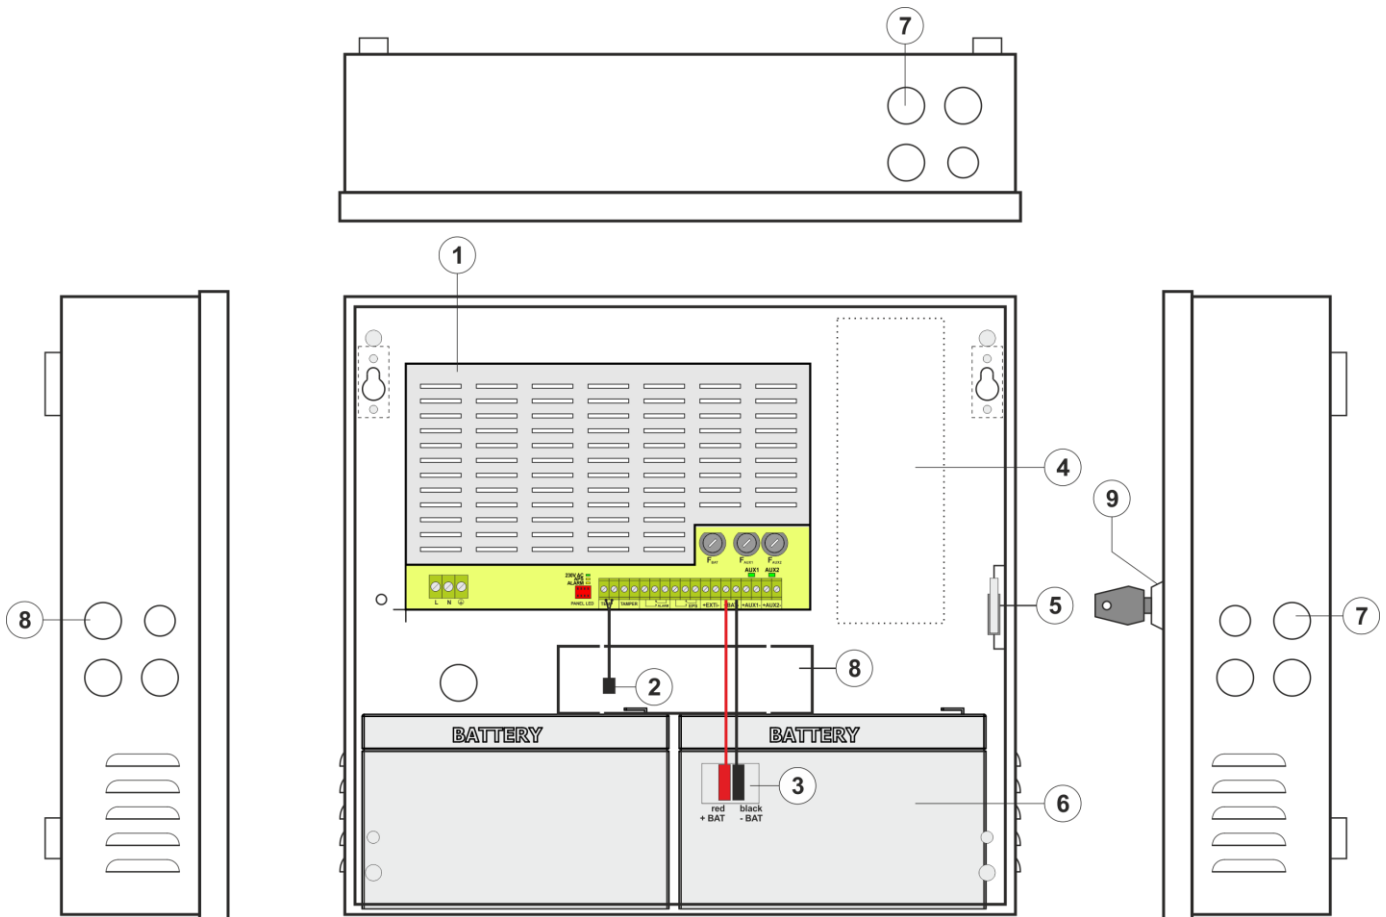

Fig. 3. The view of the power supply based on the EN54C-2A7.
Table 2. Elements of the PSU (Fig. 3).
5. Install the batteries in a designated area of the enclosure (see Fig. 3). Connect the batteries with the PSU paying special attention to the correct polarity. Batteries must be connected in series using the special cable (included). Attach the temperature sensor to any of the batteries with mounting tape (included). Place the temperature sensor between the batteries.